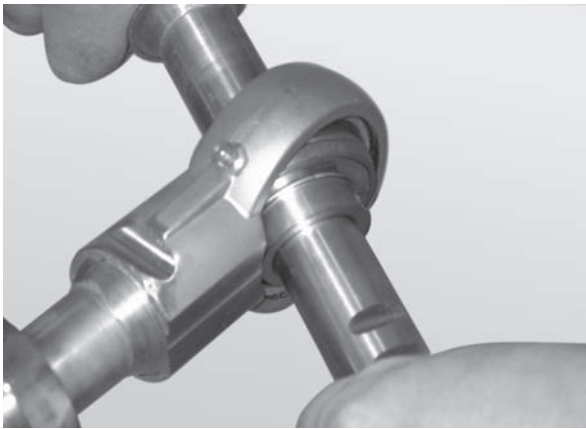

Figure 85
2. Insert the rod end of a second bearing shaft through the bearing (**Figure 85**).